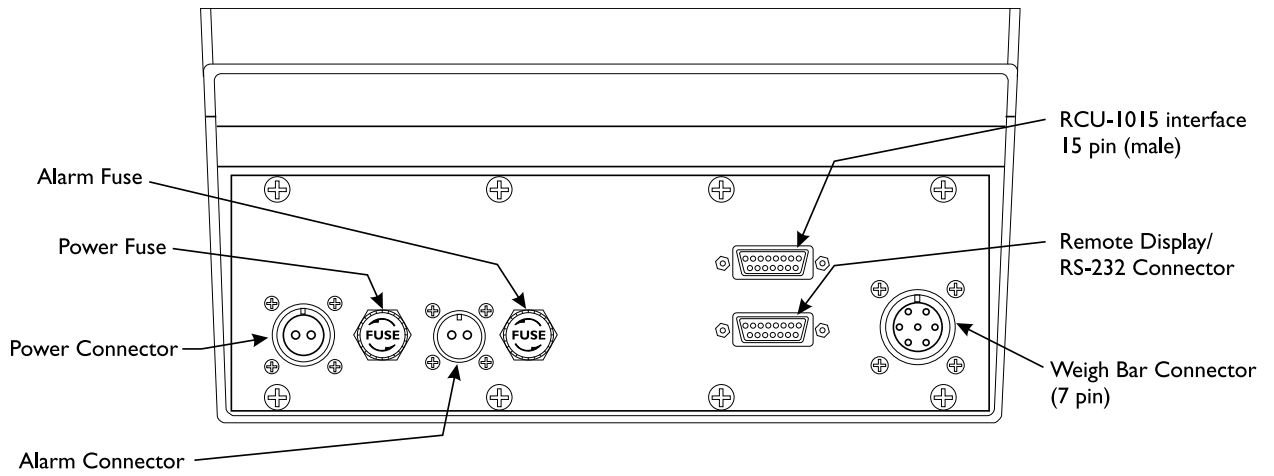

Figure 2:
2. Connect the 2-pin power cable, RCU-1015 interface, and Weigh-Bar cables into the bottom of the Model 1015 indicator as shown in Figures 2 and 3.